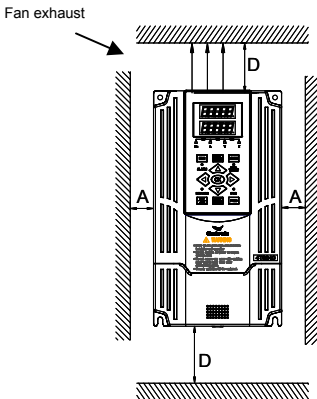

Figure 3-1 Spacing distance for installation
Requirements for installation spacing distance of single frequency inverter are as shown in figure 3-1. Reserve enough space around the frequency inverter.
- As shown in Figure 3-1 and 3-2:  $A \geq 50\text{mm}$ ,  $D \geq 120\text{mm}$